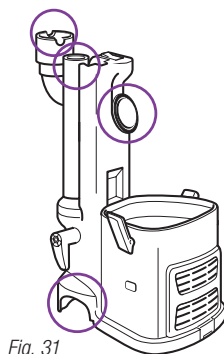

Fig. 31
- Remove the dust cup and extension wand and separate the portable *Lift-Away*® canister from the motorized floor brush. Look in all 4 openings for any blockages. (Fig. 31)